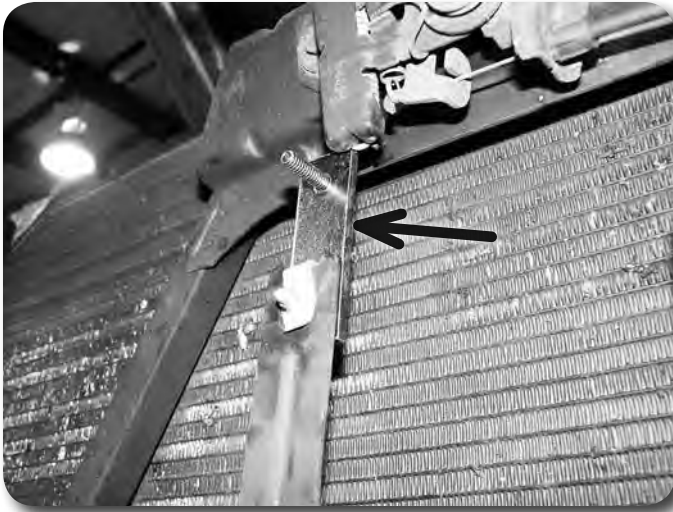

Figure 22
53. Attach the provided 2” relocation brackets to the cooler using the repositioned nut clips and factory bolts. The threaded stud on the relocation bracket should be facing out away from the radiator **Figure 22**. Be sure the relocation brackets are vertical and torque the factory bolts to approximately 15 ft-lbs.